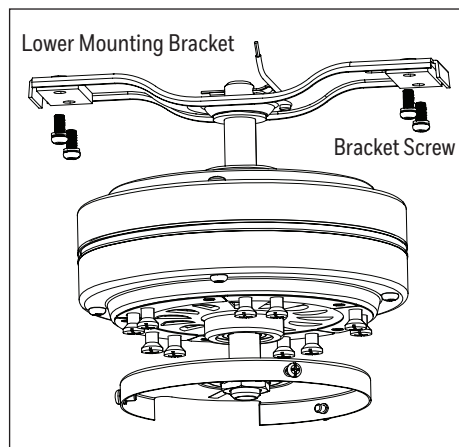

Figure 2.2
2. Remove the four bracket screws from the lower mounting bracket and save for later use (Figure 2.2).